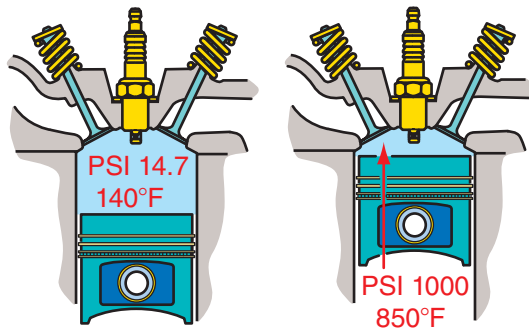

FIGURE 1.9 The air-fuel mixture heats up as it is compressed.
- **Power Stroke.** As the piston approaches TDC on its compression stroke, the compressed air-fuel mixture becomes very explosive (**FIGURE 1.9**). When the ignition system generates a spark at the spark plug, the fuel ignites. The air-fuel mixture burns,